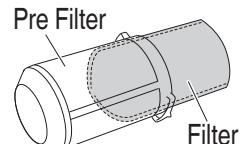

Fig. 8
(3) Check the filter (**Fig. 8**)